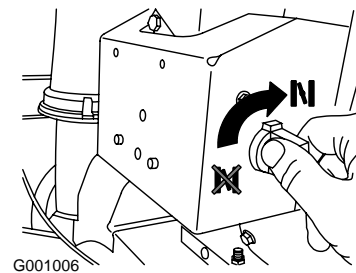

Figure 27
4. Rotate the choke to the On position (Figure 27).